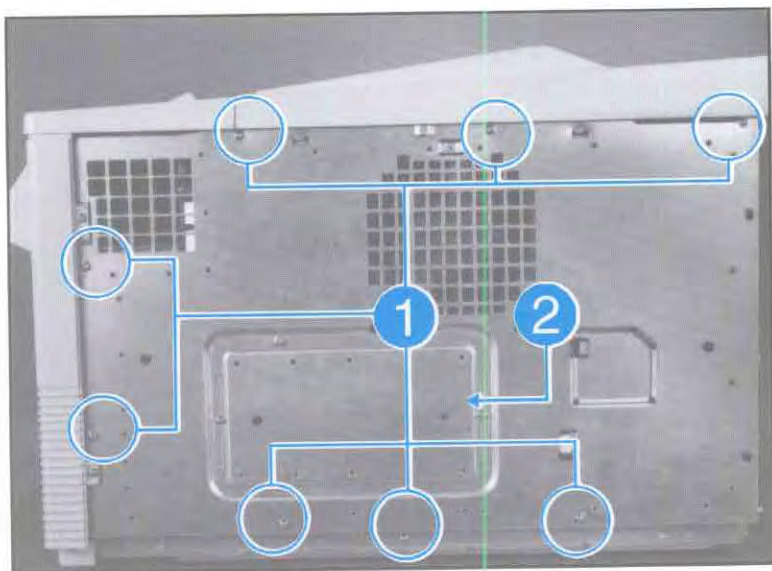

Figure 6-12. Formatter Pan Cover
2. Remove the (8) screws securing the Formatter Cover (see Figure 6-12, callout 1).
The Panel Door in the middle of the Formatter Pan Cover (callout 2 in Figure 6-12) allows access to the SIMM cards. Remove or replace the SIMM cards through this Panel Door. Do not remove the Formatter Pan Cover to access the SIMM card sockets.
2. Remove the Formatter Pan Cover (see Figure 6-12).
2. Remove the Formatter Cover (see Figure 6-12).
3. Unplug the (3) connectors on the Formatter PCA
3. Remove the Formatter Cover (see Figure 6-12).